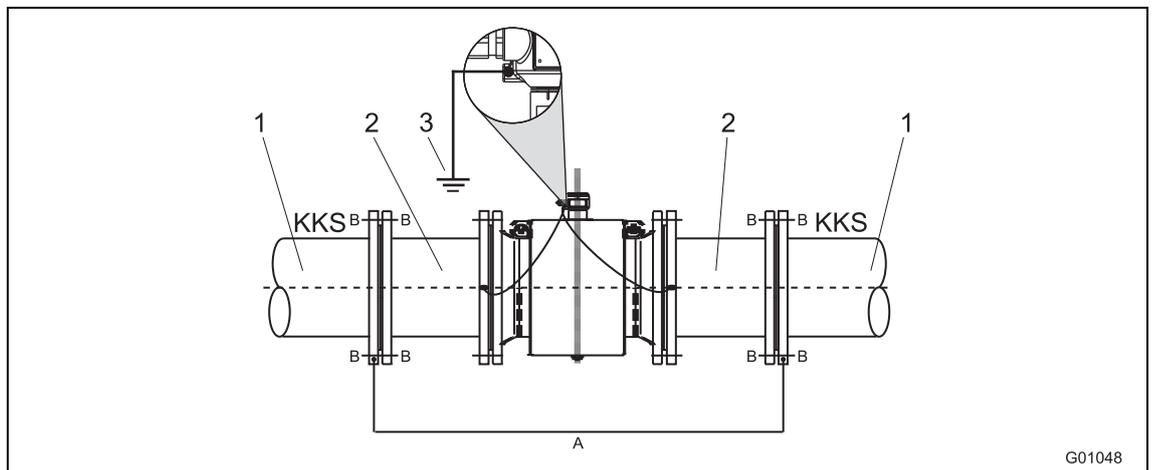

Fig. 31: Flowmeter sensor with functional ground
- If the occurrence of external stray currents is to be expected in pipelines with internal insulation (e.g. in the case of long pipe sections in the vicinity of power supply units), an uninsulated pipe of approx. 1/4 DN of length should be provided upstream and downstream of the flowmeter sensor in order to deviate these currents away from the measuring system (Fig. 31).
The Fig. 31 shows the preferred installation for cathodic corrosion protection systems.